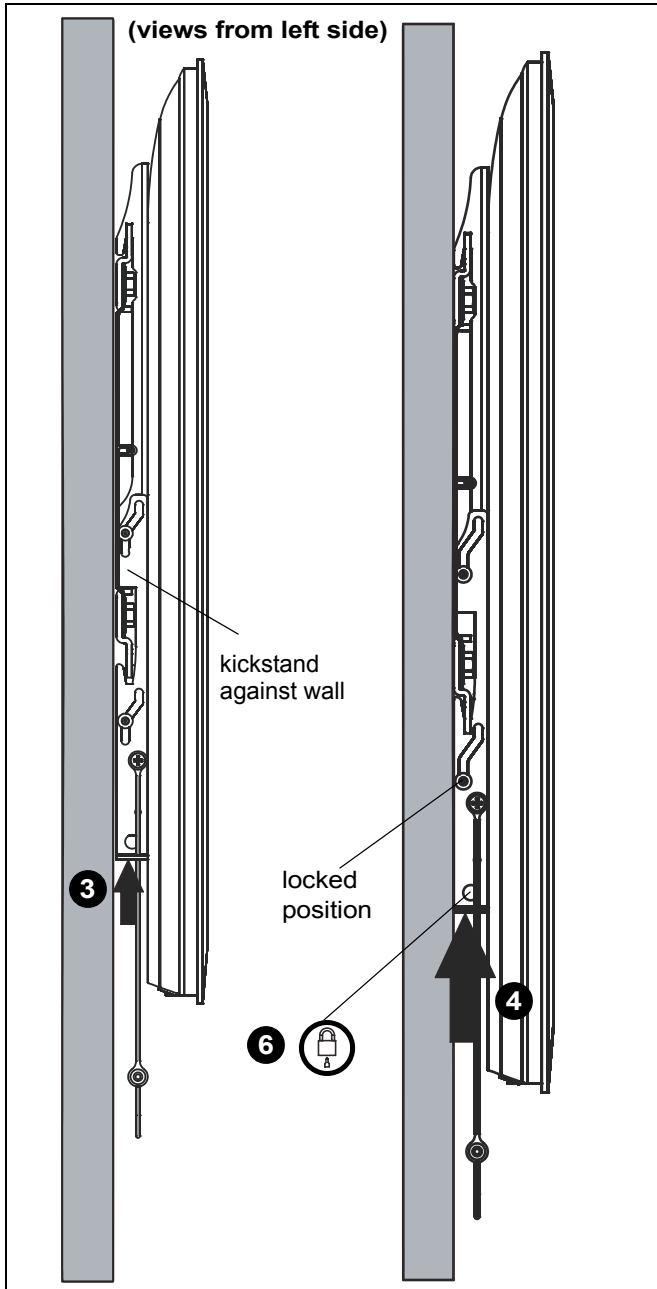

Figure 11
3. Unlock kickstand by pushing up on interface brackets until kickstand rests against the wall. (See Figure 11)
4. Push up on the interface brackets further in order to lock display into position against wall. (See Figure 11)
6. (Optional) Route padlock or cable lock (not included) through bottom holes on interface bracket to provide additional security. (See Figure 11)